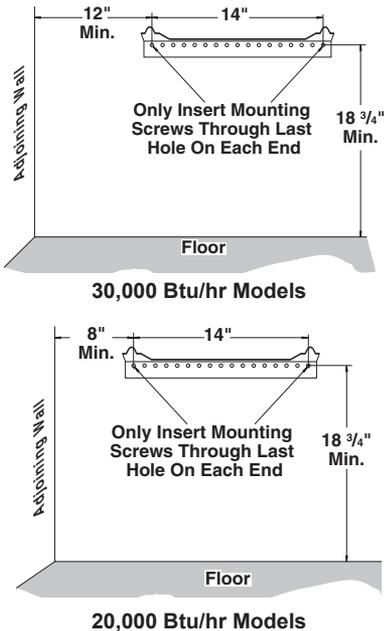

Figure 8 - Mounting Bracket Clearances
WARNING: Maintain minimum clearances shown in Figure 8, page 9. If you can, provide greater clearances from floor and joining wall.
2. Mark screw locations on wall (see Figure 8).